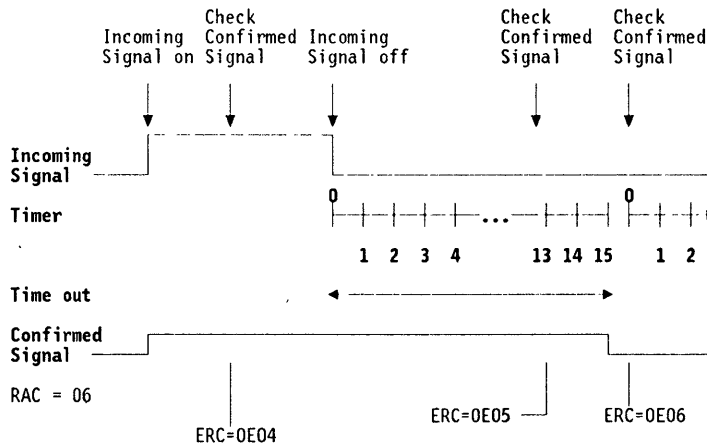

Figure 5-4. Timing Diagram B
2. Process a set of verifications from the confirmation mechanism for I falling. See Figure 5-4 for the respective ERC test sequence points.